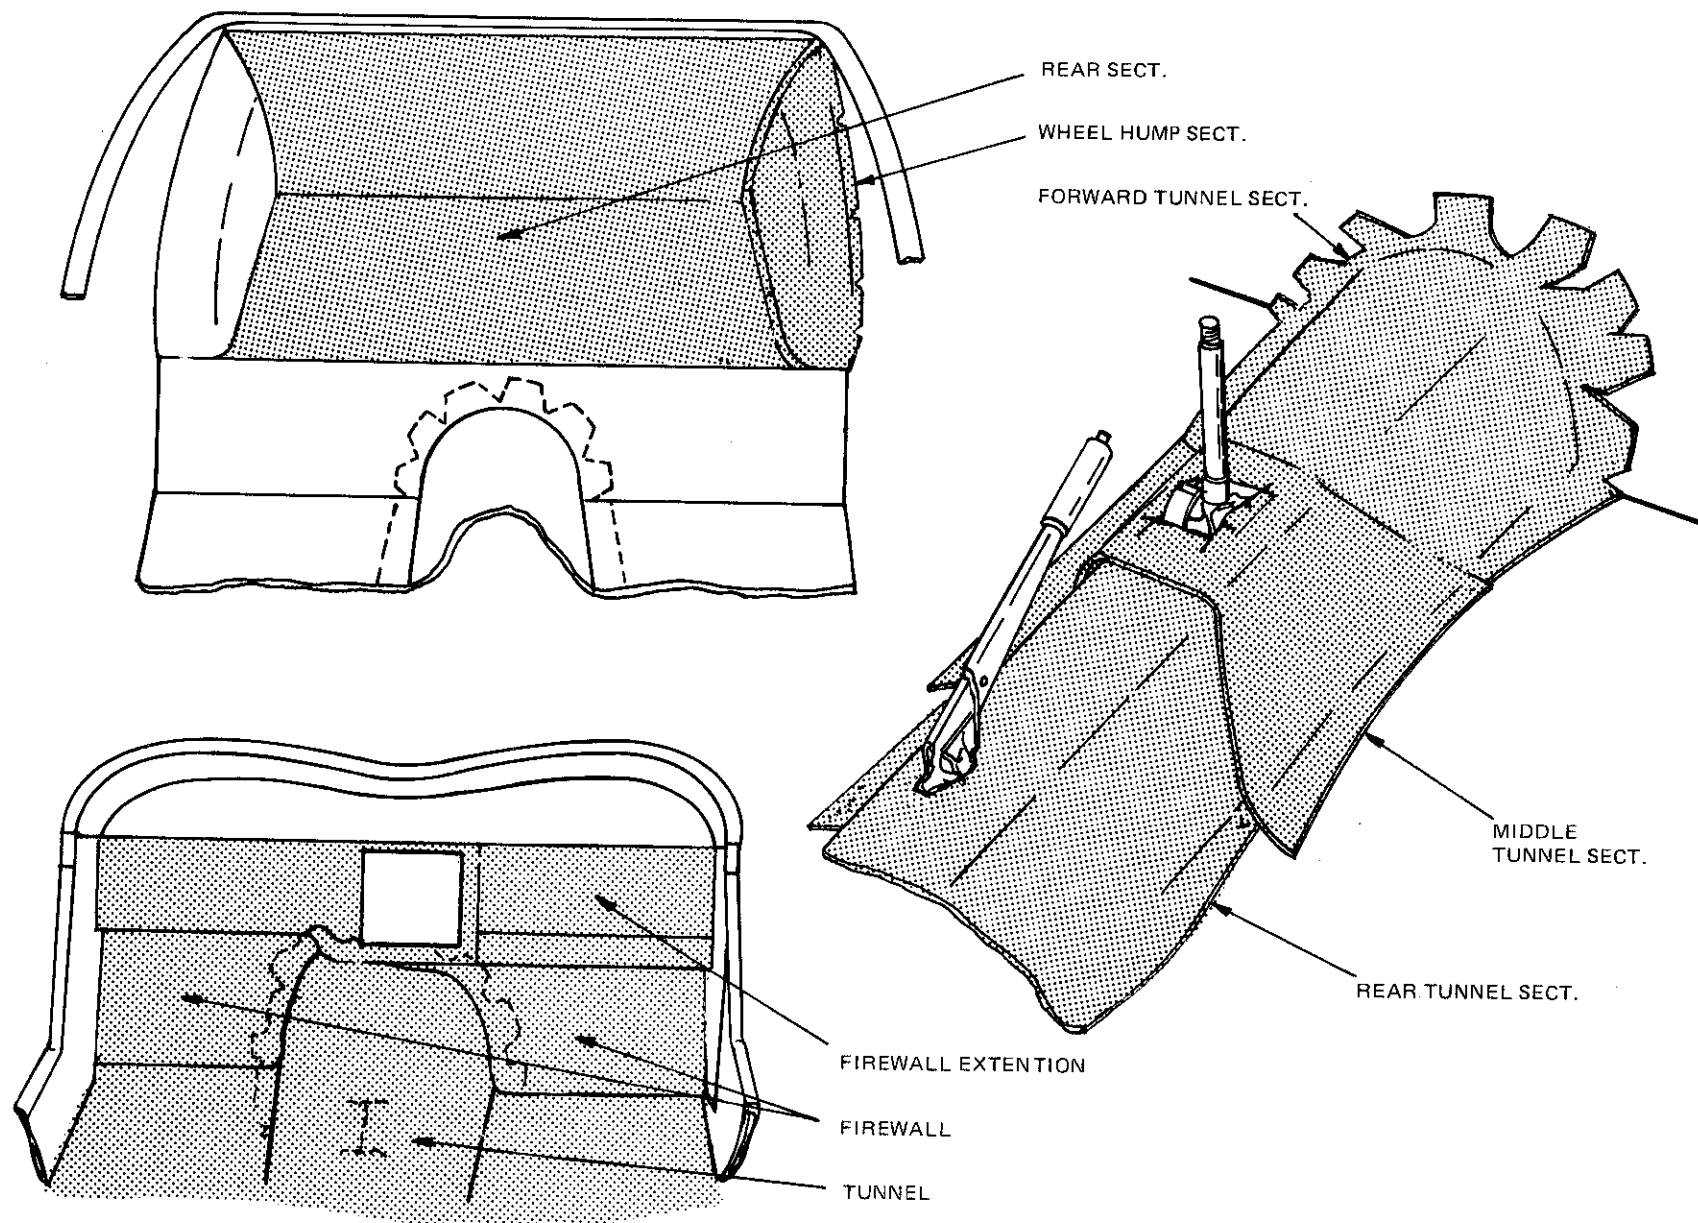

Figure 70
- ☐ The first pieces to be installed are the wheel hump sections. (Figure 70) Using spray glue or contact cement, glue the section in place, notching where necessary to allow it to lay flat.
- ☐ Fit the rear section in place. Align side edges with wheel humps and rear with top of body. (Figure 70) Glue in place, spreading glue on back and bottom of body. Do not glue corners or part of carpet that drops down toward floor. They will be glued in a later step.